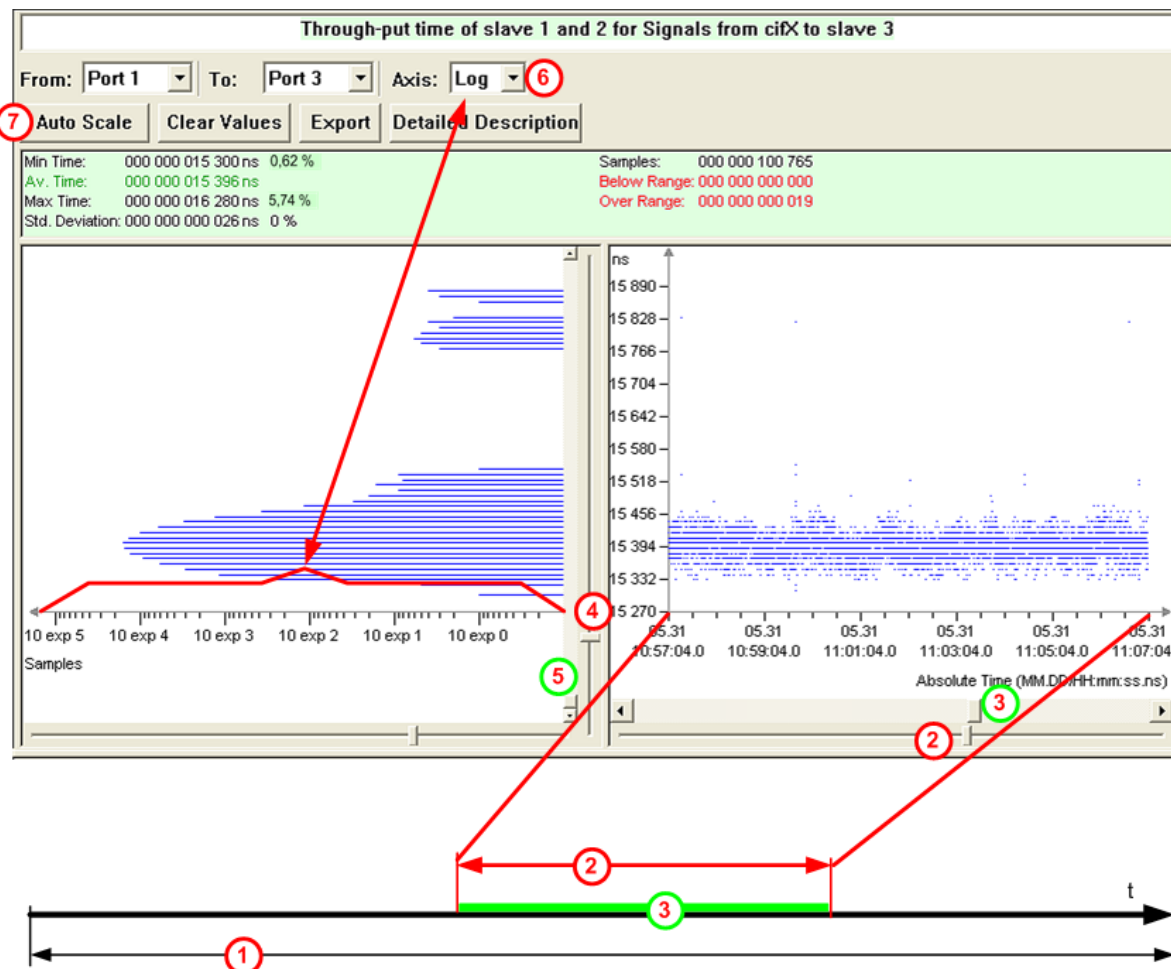

Figure 38: Timing Analysis, change Scaling
The time bar ① in Figure 38 displays the entire measuring time period.
All three axes in Figure 38 can be adjusted with **Auto Scale** ⑦ in such a manner, that all measuring events are located within the display area.